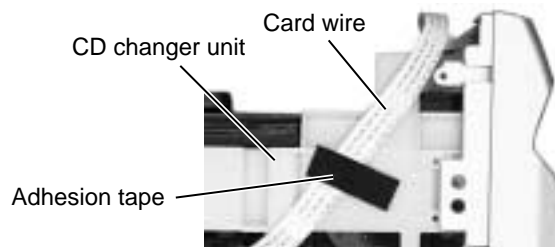

Fig.4
■ Removing the CD changer unit (See Fig.4 to 7)